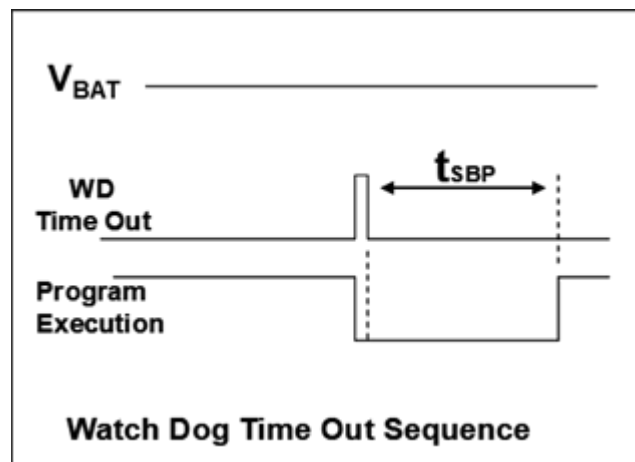

Fig.17: Sequence of Watch Dog Time Out
When WDT is timeout, PMB180(B) will be reset to restart the program execution. The relative timing diagram of watchdog timer is shown as Fig.17.